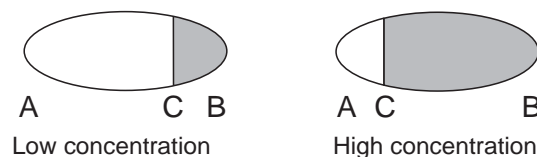

Figure 1.3 Optical images
The refractive index n_D changes with the process solution concentration and temperature. When the concentration changes, the refractive index normally increases when the concentration increases. At higher temperatures the refractive index is smaller than at lower temperatures. From this follows that the optical image changes with the process solution concentration as shown in Figure 1.3. The color of the solution, gas bubbles or undissolved particles do not affect the position of the shadow edge (C).